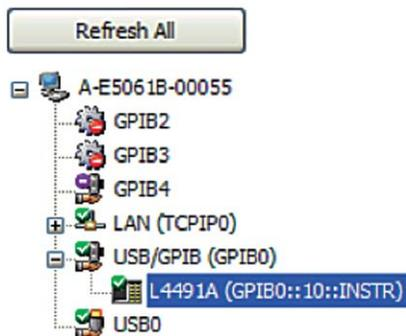

Figure 8. L4491A is added to the Instrument I/O list once connected
2. Connect the E5061B and the L4491A using a USB/GPIB interface such as the 82357B. When configured properly the connection is detected automatically and the L4491A appears on "Instrument I/O on this PC" panel of Agilent connection expert as shown in Figure 8.